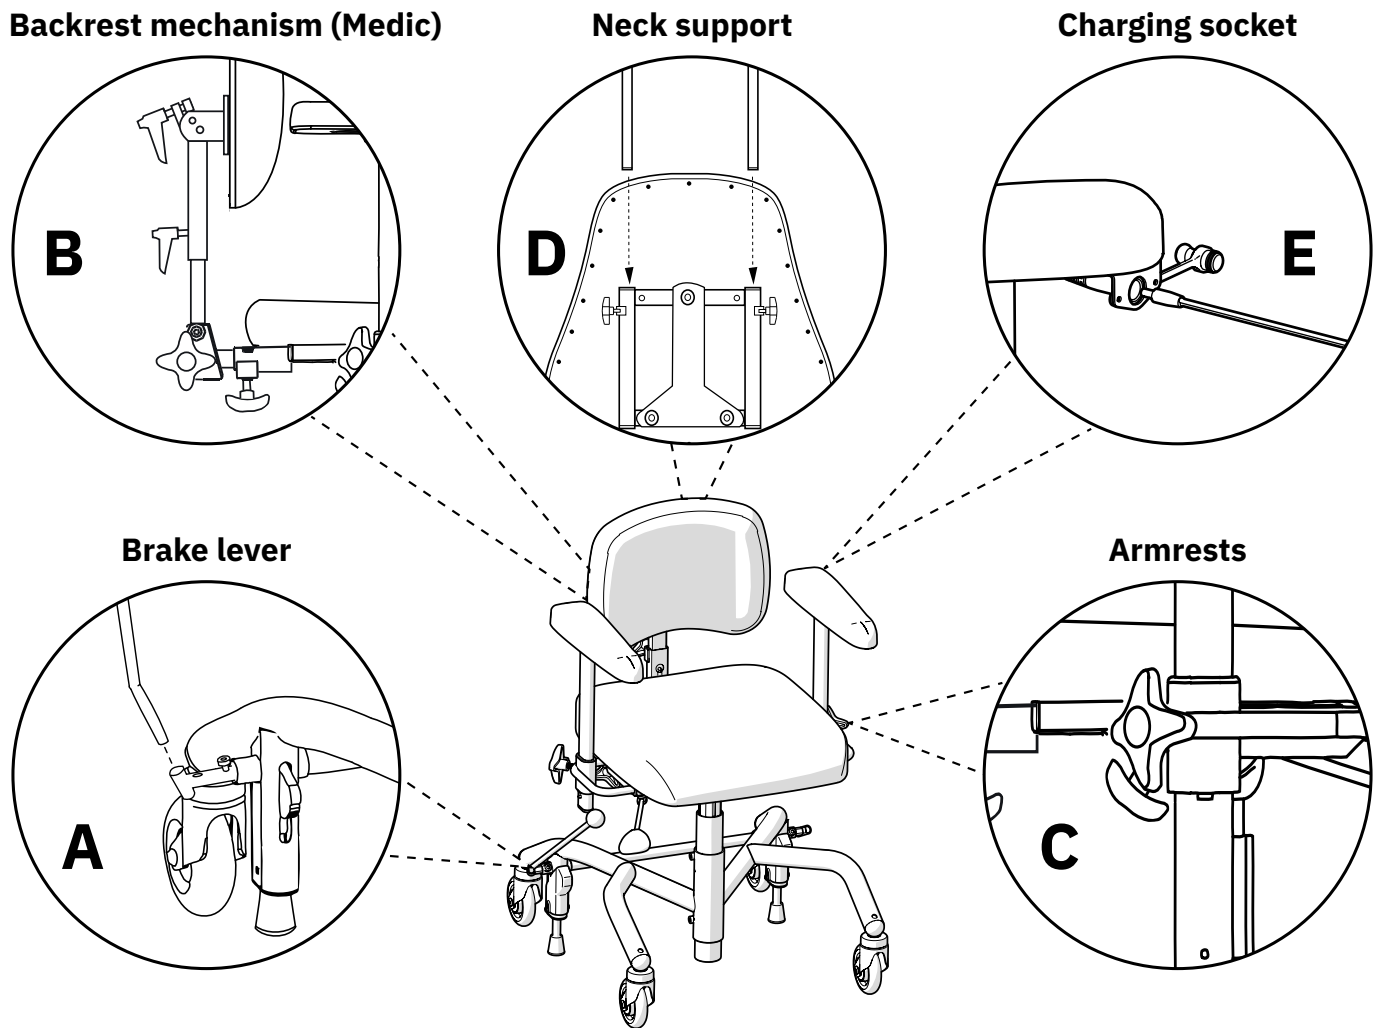

Figure 2.1. Preparations before the device is put into use.
Insert the brake lever into the brake lever bracket (A), see Figure 2.1. The brake lever can be placed on the right or left side.
Place the backrest support post in the back recliner (B) and set the desired height level, see Figure 2.1. Tighten all controls (B). The image shows one of several back mechanisms available for Mercado Medic devices. Other back mechanisms are mounted in the same way, although the appearance may differ from that in the image.
Loosen the armrest controls (C) and set the desired height and width levels, see Figure 2.1. Tighten all controls (C).
If the device is supplied with a neck support, insert the neck support mechanism into the backrest bracket (D) and set the desired height level, see Figure 2.1. Tighten all controls (D).
Before first use, the battery in electric models must be activated and charged. This is done by connecting the battery charger to the device's charging socket and to a wall outlet (E), see Figure 2.1. The charging socket can be placed in different places on the device. The most common is that the device comes with the charging socket mounted at the rear edge of the left armrest.